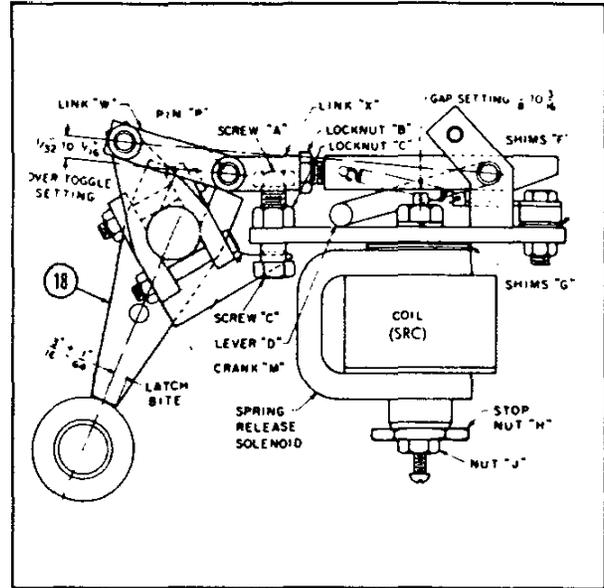

Fig. 18 - Spring release latch.
3. Hand crank unit until pin (8) rests on crown of cam (2) (before springs begin to charge).
4. Turn adjusting screw (3) on 88-3 switch until there is only 1/32 to 1/64 inch travel left. Lock with locknut (4C).
6. Turn adjusting screws (3) on 88-1 and 88-2 switches until they snap over. Lock with locknuts (4A, 4B).
To change bite of spring release latch (Fig. 18), disconnect links (W and X) by removing pin (P) and turning screw (A) against crank (M). Check visually to see that bite is 3/16-in., or point of contact at about the center of the latch (18). Lock screw (A) with locknut (C). Adjust link (X), if necessary, so that pin (P) can be easily inserted. To adjust link (X), loosen locknut (B) and rotate the link end to increase or decrease its length.